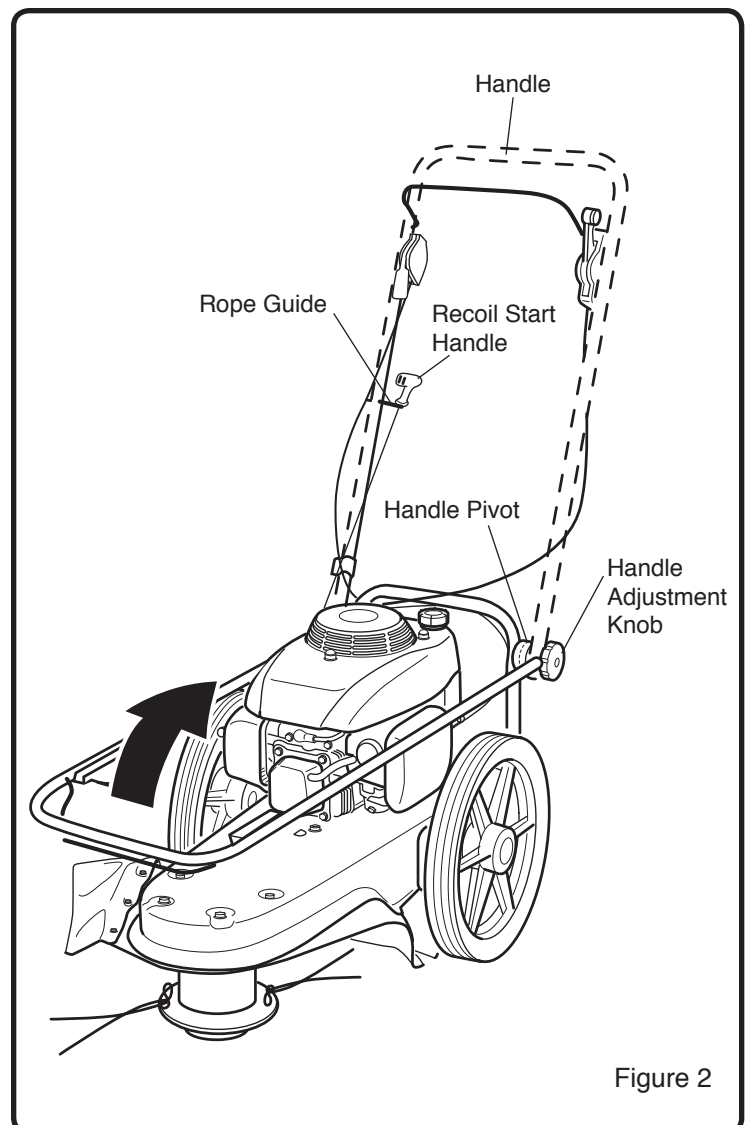

Figure 2
1. Hold the handle with one hand and loosen both handle adjustment knobs until the ratchet teeth are disengaged. Do not remove the handle adjustment knobs. (See Figure 2)